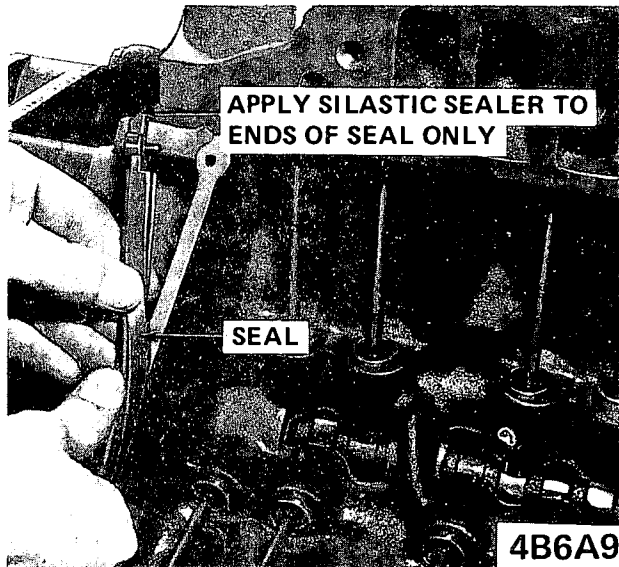

Figure 6A-58 - Intake Manifold Seal Installation
1. Place new intake manifold gasket and rubber manifold seals in position at front and rear rails of cylinder block. Be sure pointed end of seal fits snugly against block and head. Before installing intake manifold seals apply Silastic Sealer or equivalent to ends of seals. See Figure 6A-58.